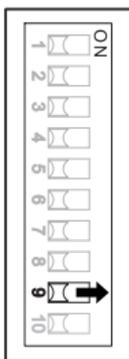

Fig. 8b: Setting the MDB protocol
- 2 Use a pointed object to set DIL switch 9 toward the right-hand side to ON (see Fig. 8b).